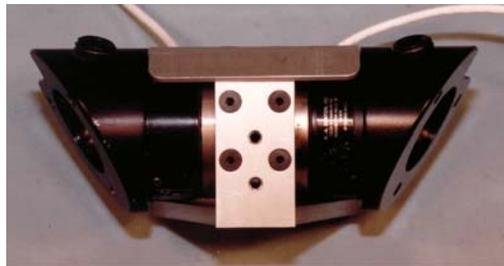

Figure 11.11- Front Plate attached to Pelvic Box
9. Bolt the Front Plate (T1PLM215) on to the front of the left and right load cell mounting plates using four #10-32 x 3/8" FHSCS {1/8}, as shown in **Figure 11.11**.